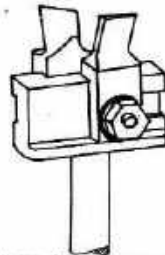

Fig. 729. EXPANSIVE DOVETAIL CUTTER
- Fig.729 Expansive Dovetail Cutter.